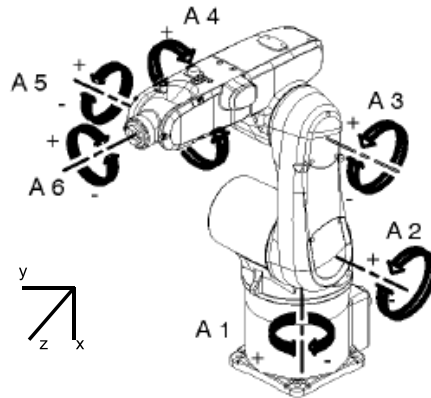

Figure 1.2: Axes of the robot
*KUKA KR 5 sixx R650* is composed of six axes as shown of figure 1.2: